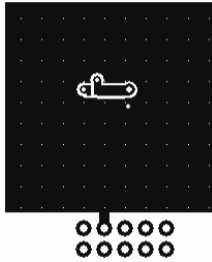
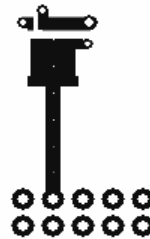

Figure 4. 1 Square Inch of 2-ounce Copper
Figure 5. Minimum Pads of 2-ounce Copper
- The device power dissipation and thermal resistance (R_θ) are characterized with device mounted on the following FR4 printed circuit boards, as shown in Figure 4 and Figure 5.